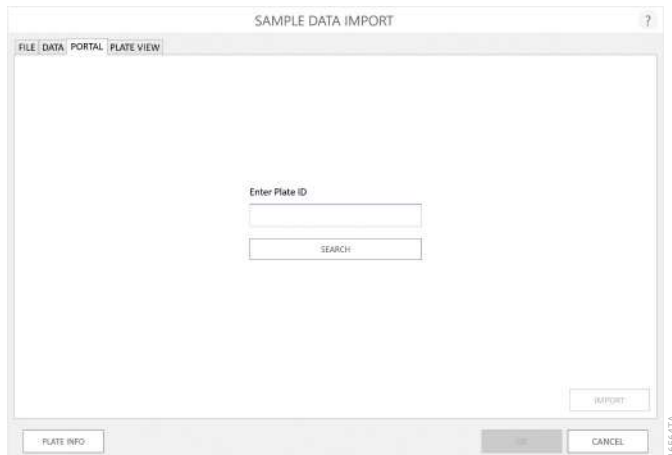

Figure 48. Portal Tab on the ‘Sample Data Import’ screen. Use the Portal tab to retrieve plate map information from the Portal software.
4. From the ‘Sample Data Import’ screen, tap the Portal tab (Figure 48).